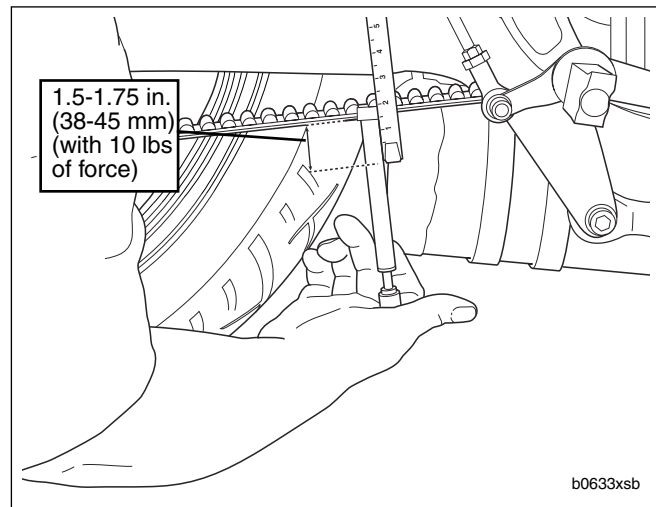

Figure 2-80. Belt Deflection
- b. See Figure 2-80. Check belt deflection.